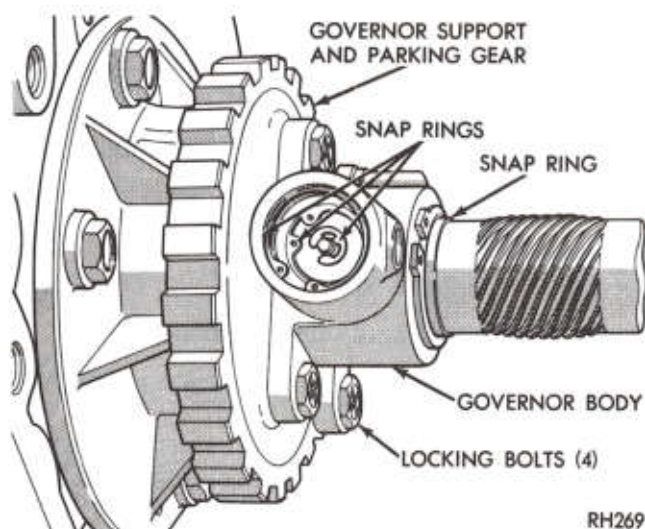

Fig. 10—Governor Snap Rings
governor valve shaft (Fig. 10). Slide valve and shaft assembly out of governor body.
(1) Assemble governor body and screen to the support and tighten bolts finger tight. Make sure oil passage of governor body aligns with passage in the support.
(2) Position support and governor assembly on the output shaft. Align assembly so valve shaft hole in governor body aligns with hole in the output shaft, then slide assembly into place. Install snap ring behind governor body (Fig. 10). Tighten the body to support bolts to 95 in. lbs. (11 N·m). The support bolts have a self-locking nylon patch and can be reused.
(3) Assemble governor weights and spring, and secure with snap ring inside of large governor weight. Place weight assembly in governor body and install snap ring.
(4) Place governor valve on the valve shaft, insert assembly into the body and through governor weights. Install valve shaft retaining snap ring. Inspect valve and weight assembly for free movement after installation.
(5) Install output shaft bearing and extension housing as previously described.